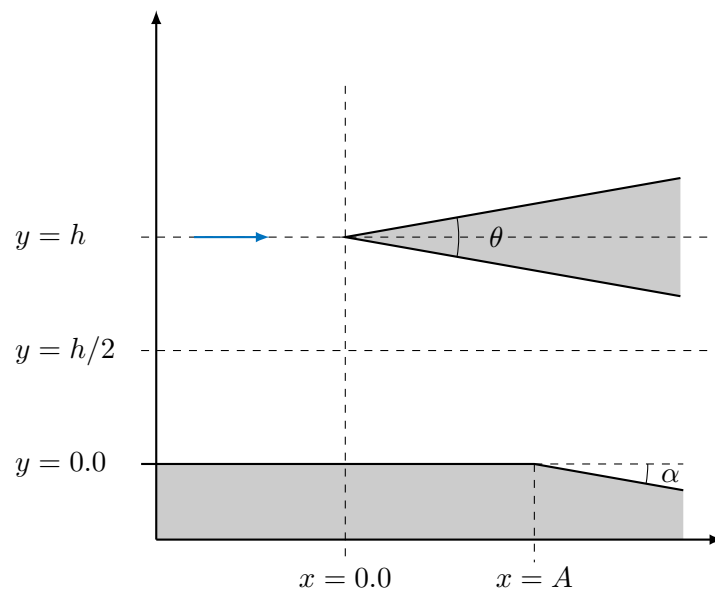
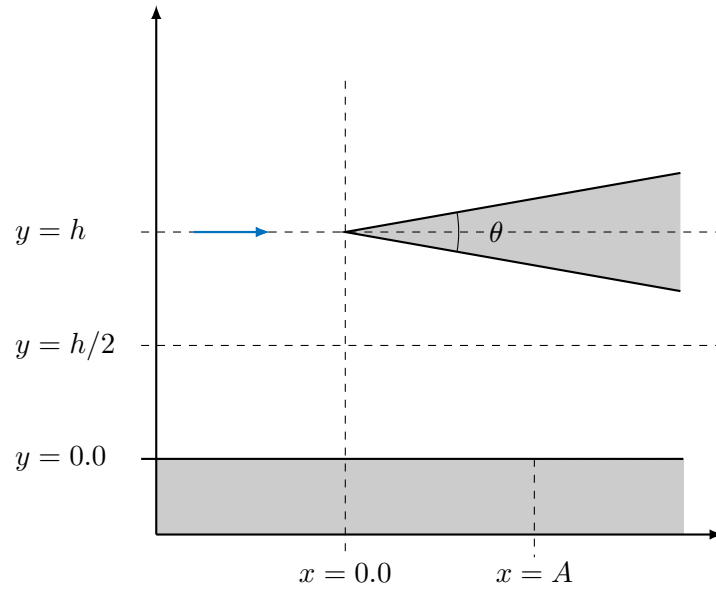

Figure 1
Figure 2
Air at a pressure of 60 kPa and a temperature of -20°C flows over a symmetric wedge. The freestream Mach number is 2.5 and the wedge leading edge angle θ is 8.0 degrees. The need for flow deflection as the flow passes the wedge will lead to generation of shocks. The shock generated on the lower side of the wedge will impinge the wall at the axial coordinate A (measured from the leading edge of the wedge). By deflecting the wall at A , as indicated in Figure 1 below, the shock may be terminated at A . Without the deflection of the wall at A (Figure 2), the shock will be reflected at the wall. The vertical distance between the wall and the leading edge of the wedge (h) is 1.0 m.
- Calculate the axial distance from the leading edge of the wedge to A , the point on the wall where the shock impinges (see Figure 1 below)
- What wall deflection angle α will lead to termination of the shock at A (see Figure 1 below)